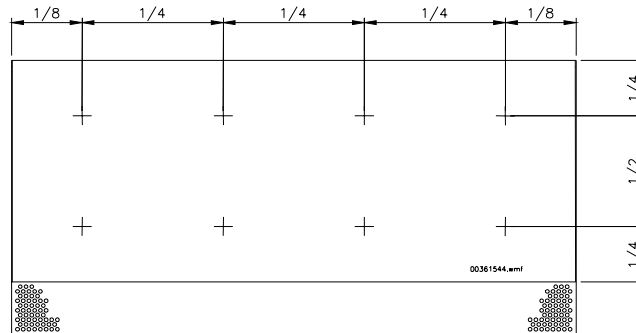

Figure 1.
2. Measure the air velocity at the indicated test points shown in figure 1.